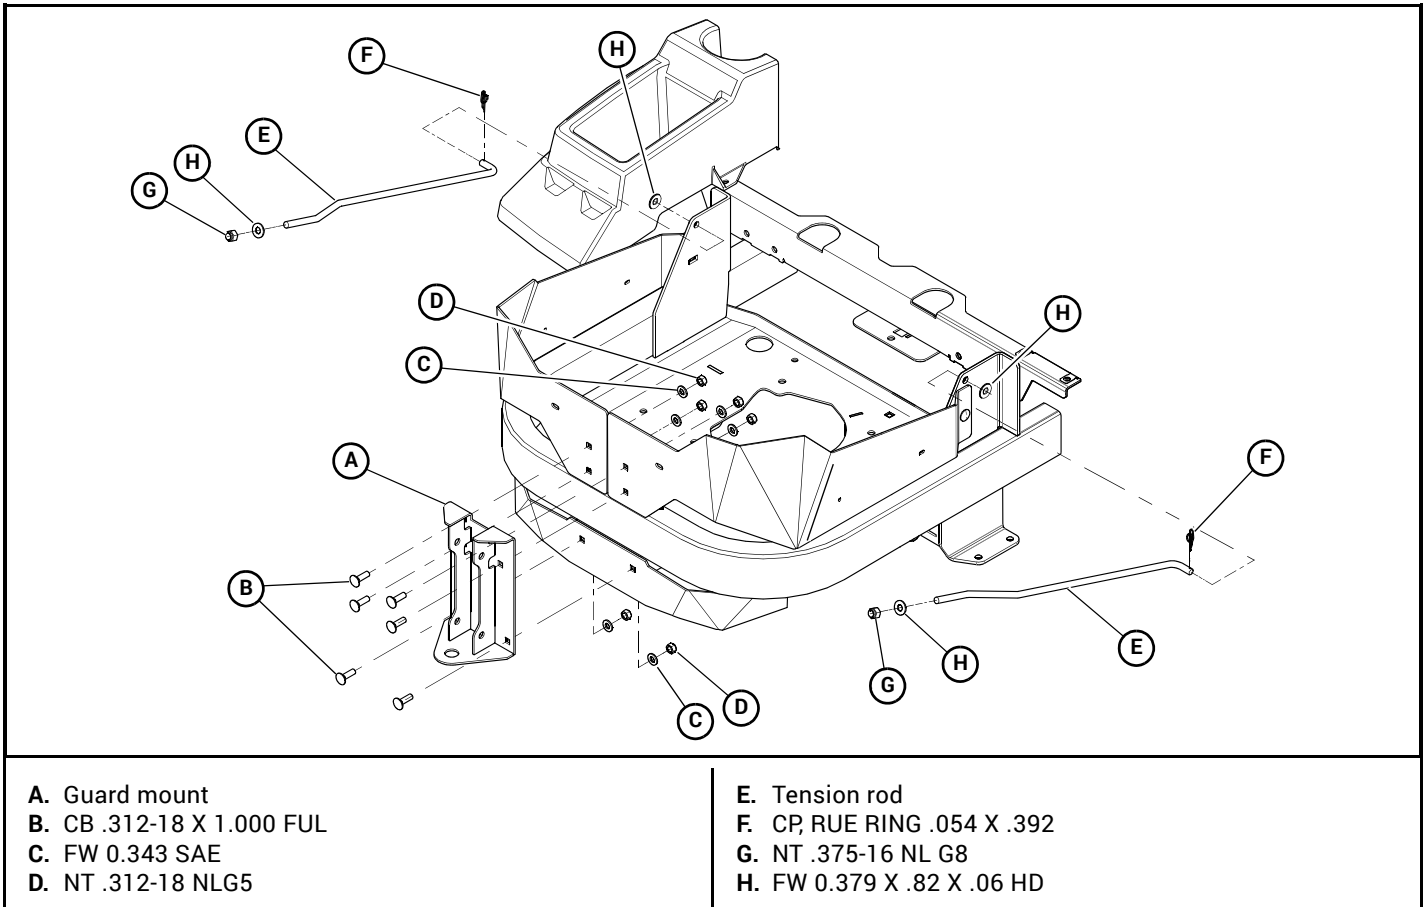

Figure 3-3
7. Attach the guard mount with the hardware provided. Figure 3-3
8. Install the tension rods as shown. Figure 3-3